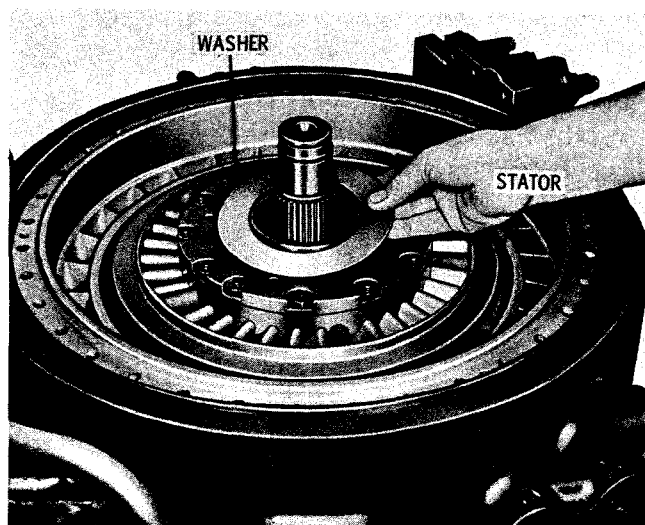

Fig. 7-82. Installing stator front thrust washer (variable-capacity converter) S1572
(11) Install the bronze thrust washer (fig. 7-82).